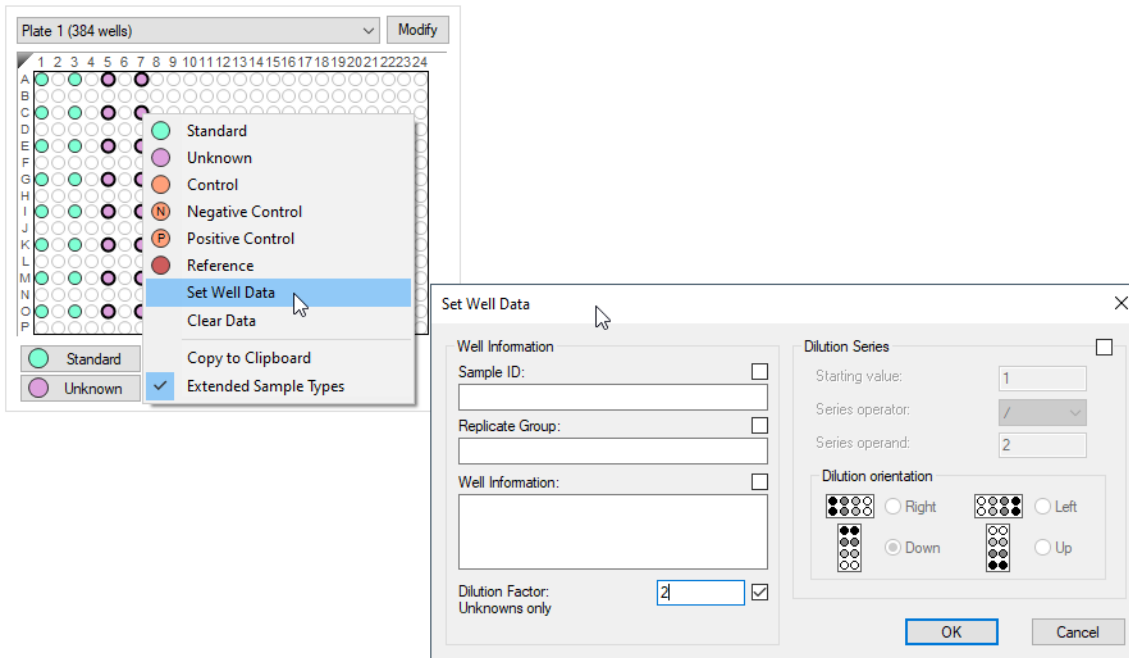

Figure 7-20: Sample Plate Map—Setting a Dilution Factor or a Serial Dilution
The **Set Well Data** dialog box appears (see Figure 7-20).
1. In the **Set Well Data** dialog box (see Figure 7-20), select the **By Value** option.
1. In the **Set Well Data** dialog box (see Figure 7-20), select the **Dilution series** option.